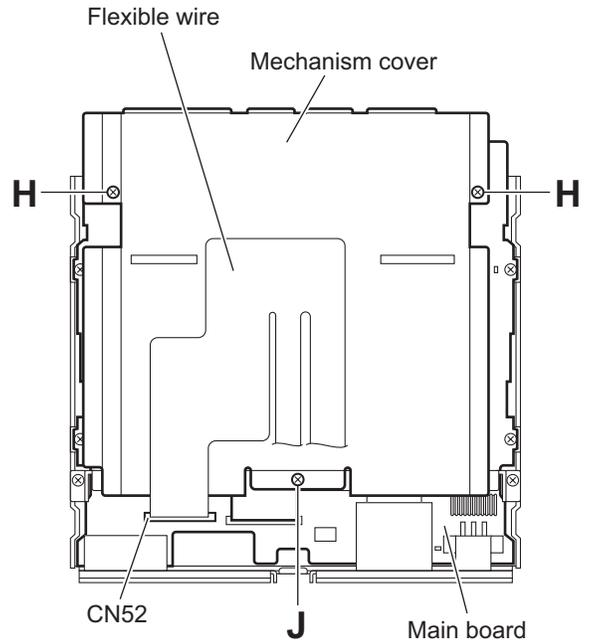

Fig.10
(See Figs.10 and 11)
- (1) From the top side of the main body, release the lock of the connector CN52 on the main board in an upward direction and disconnect the flexible wire. (See Fig.10.)
- (2) Remove the two screws **H** and screw **J** attaching the mechanism cover. (See Fig.10.)